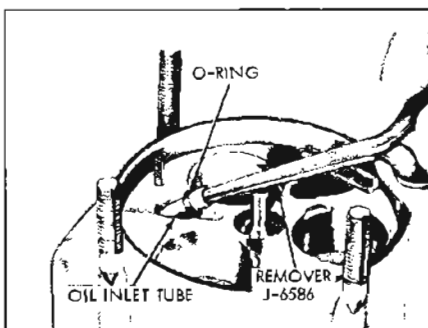

Figure 11-120—Removing Oil Inlet Tube
1. Remove oil inlet tube, using J-6586 Remover. See Figure 11-120. If tube "O" ring did not come out with tube, remove it from cylinder with small wire.